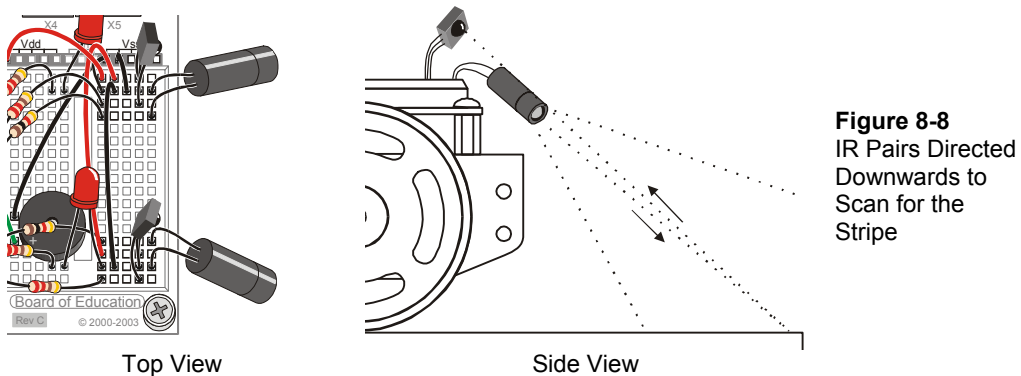

**Figure 8-8**
- ✓ Point your IR pairs downward and outward as shown in Figure 8-8 (Figure 7-8 from page 255 repeated here for convenience).